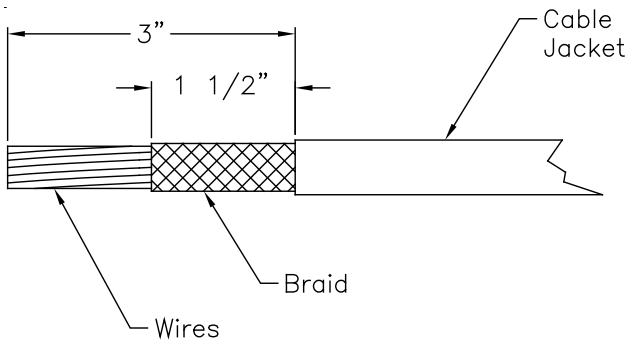

Figure 5: Stripping of I/O Cable(s)
4. Strip the jacket off the cable(s) 3" from the end and remove the braid 1.5" from the end (see Figure 5).